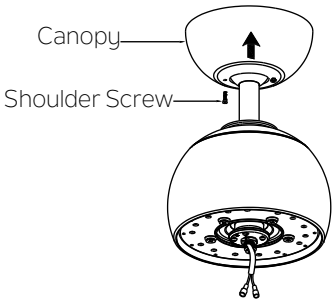

Fig. 13
Step 2. Assemble canopy by rotating key slot in canopy over shoulder screw in mounting bracket. Tighten shoulder screw. Fully assemble and tighten second shoulder screw that was previously removed. (Fig. 13)